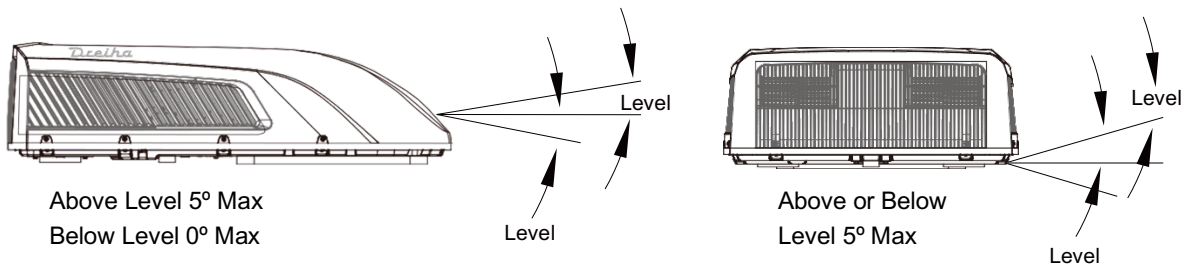

Figure 2
1. The roof top air conditioner must be mounted on a level plane from front to rear and side to side when the vehicle is parked on a level plane. Figure 2 shows maximum allowable degrees